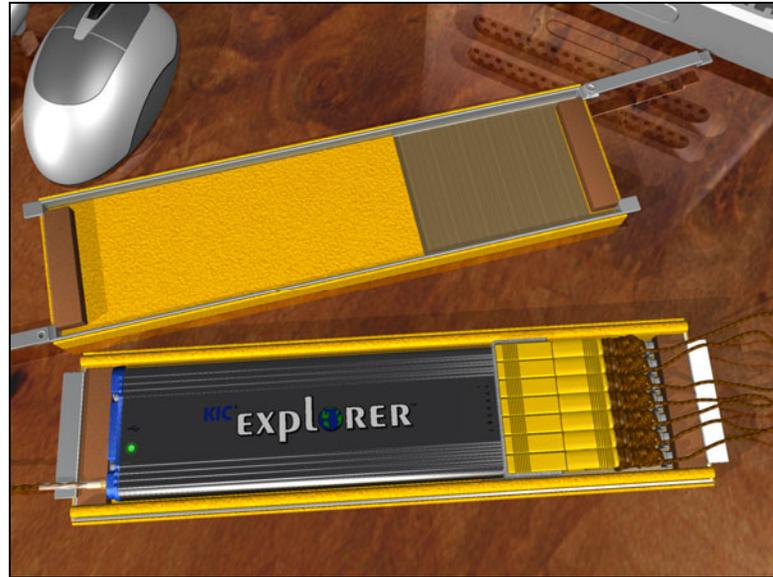

Figure 18: 7 Channel KIC Explorer aligned in thermal shield
- The *KIC Explorer* antenna should extend fully, and exit from the back of the thermal shield. (Wireless models only) See Figure 18.
Once the *KIC Explorer* is set inside the bottom half of the thermal shield and the thermocouple wires and antenna are properly routed, verify the *KIC Explorer* is on by viewing the LED near the *On/Off* button. See Figure 18.